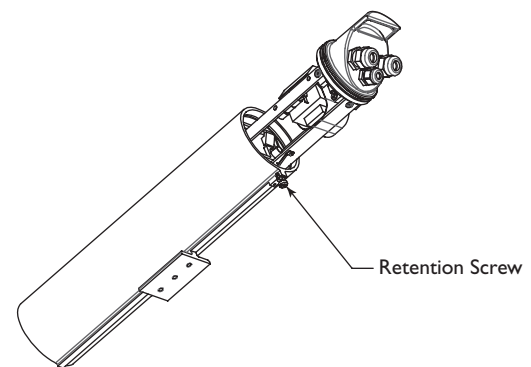

FIGURE 1 Removing the Cradle Assembly
2. Remove the cradle assembly by pushing gently on the metal part of front cap and simultaneously grasping the rear handle and pulling the cradle assembly out of the housing. Be sure to keep the edges of the endcaps clean and free of scratches (see FIGURE 1).